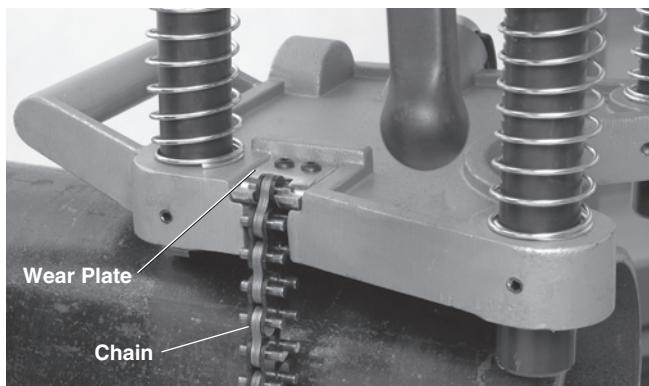

Figure 5 – Hooking the HC-450 Chain
3. Always keep at least one hand on the Hole Cutting Tool to stabilize and guide it. Grasp the end of the chain and pull it snugly around the pipe. Hook the closest chain pin on the wear plate and firmly tighten the swivel handle to hold the Hole Cutting Tool to the pipe. (See *Figure 5*)